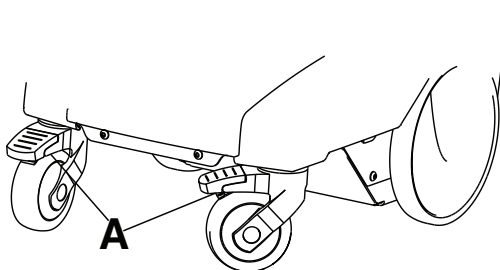

Figure 6 – Wheel locks
To apply the wheel locks, push down (A) (Figure 6) with your foot.
To release the wheel locks, pull up (A) (Figure 6) with your foot.